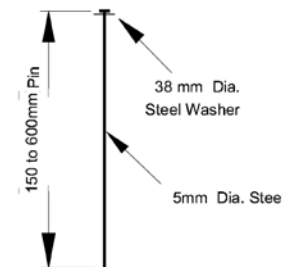

FIGURE 9: PIN DETAIL
- Metal pins should be at least 5mm diameter steel with a 38mm steel washer at the head of the pin (see Figure 9). Metal pins should be driven flush to the soil surface. Pins should be between 150-600mm long and have sufficient ground penetration to resist pullout. Longer pins may be required for looser soils. Heavier metal stakes may be required in rocky soils. Depending on soil pH and design life of the pin, galvanized or stainless steel pins may be required. Consult project plans and/or specifications for tie down device details.